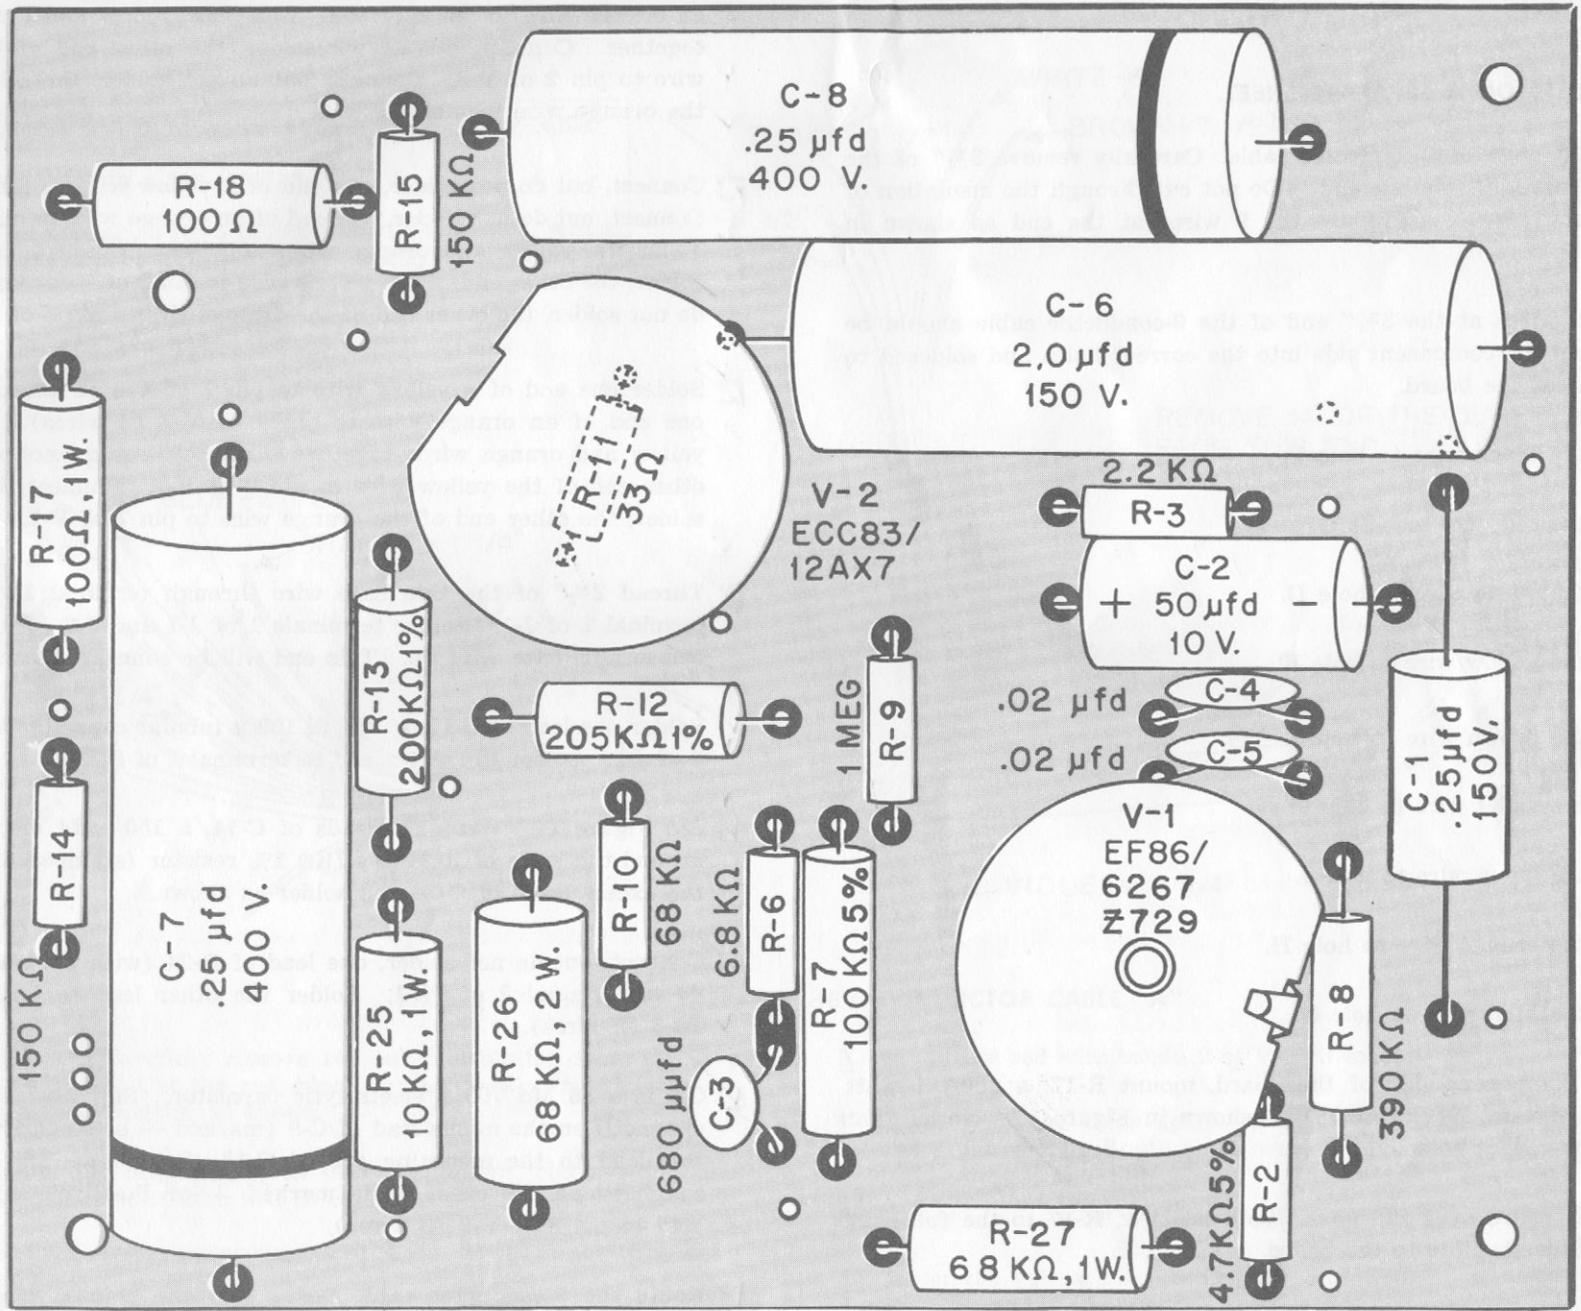

FIGURE 15. MOUNTING PARTS ON PRINTED CIRCUIT BOARD 820048
SEE FIGURE 15.
- ✓ On the component side of the board, mount R-17, a 100Ω 1 watt resistor (brown, black, brown) as shown in Figure 15. Notice that R-17 now covers hole U.